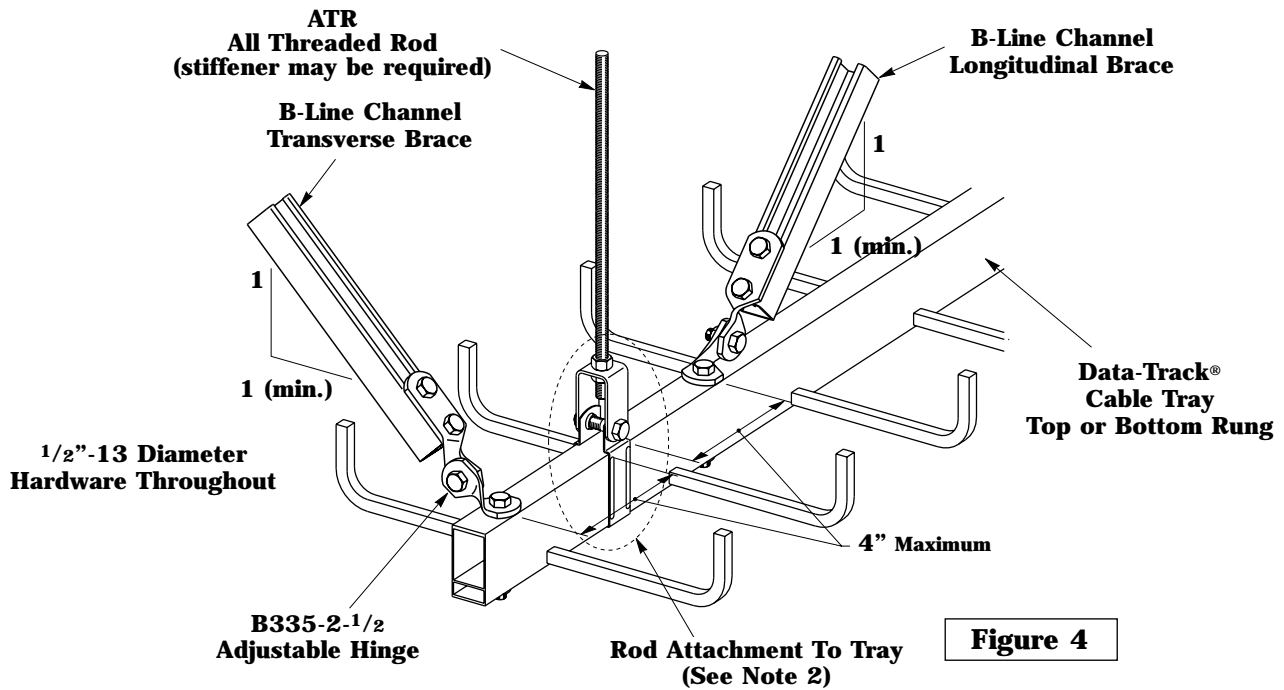

Figure 4
- 2). Rod attachment to tray may include CZNH-CD clevis hanger (shown in Figure 4), CAS-SB splice connector, ATR through field drilled holes, or other methods per B-Line recommendations.